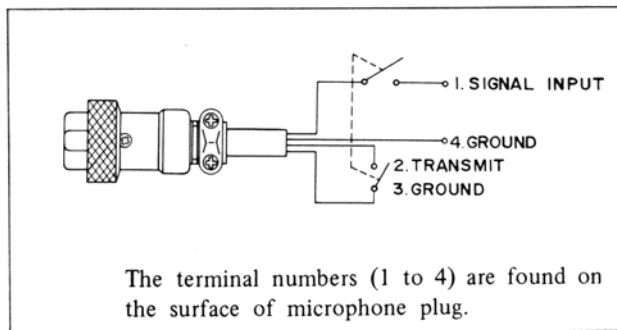

Figure 5 CONNECTION OF MICROPHONE PLUG
- 4- As to the alignment of the modulation circuit, be sure to use the microphone plug shown in Figure 5 to be connected to it.